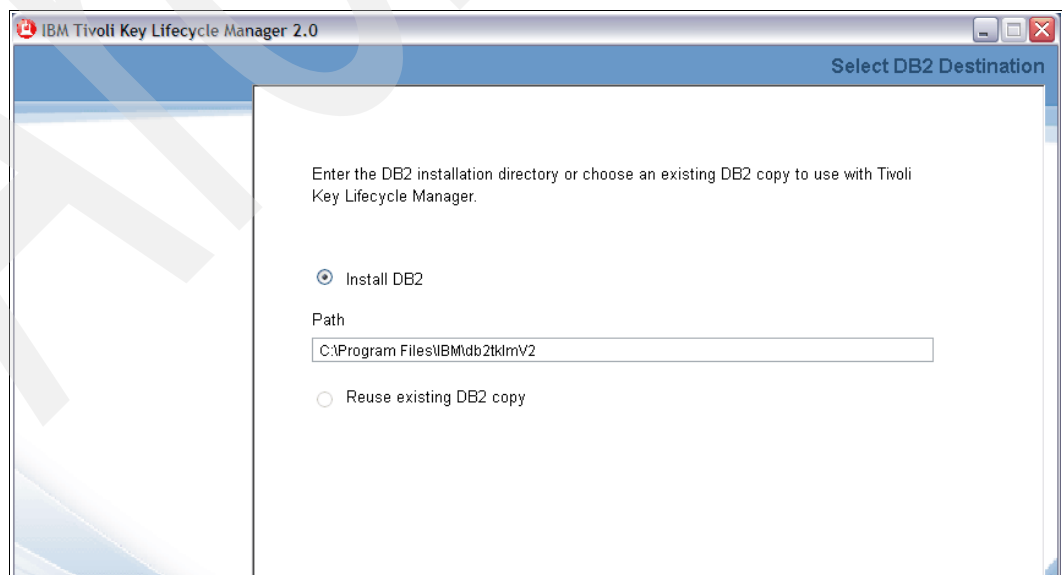

Figure 6-4 TKLM\_v2\_DB2\_path
4. The default DB2 directory path is shown on the Select DB2 Destination screen. You can keep the default, enter a different path, or select to use the path from a previous installation (Figure 6-4). Click **Next**.